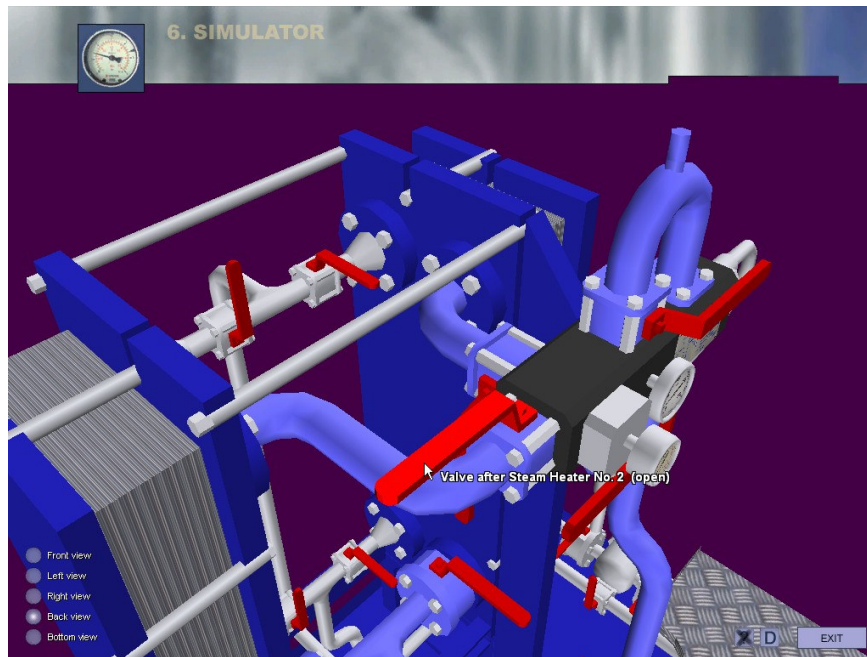

Fig. 20. Back view - Valves - Heat Exchanger oil outlet
7. Open valve after one of the Steam heater (e.g. before Steam heater No. 2) (fig. 20).